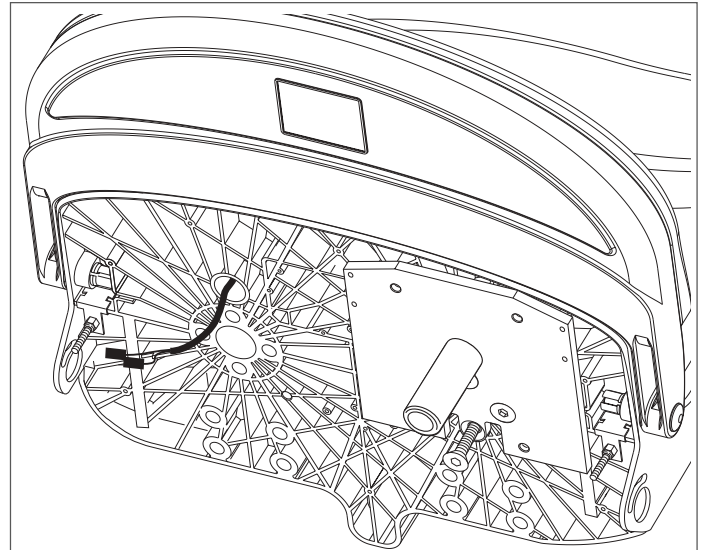
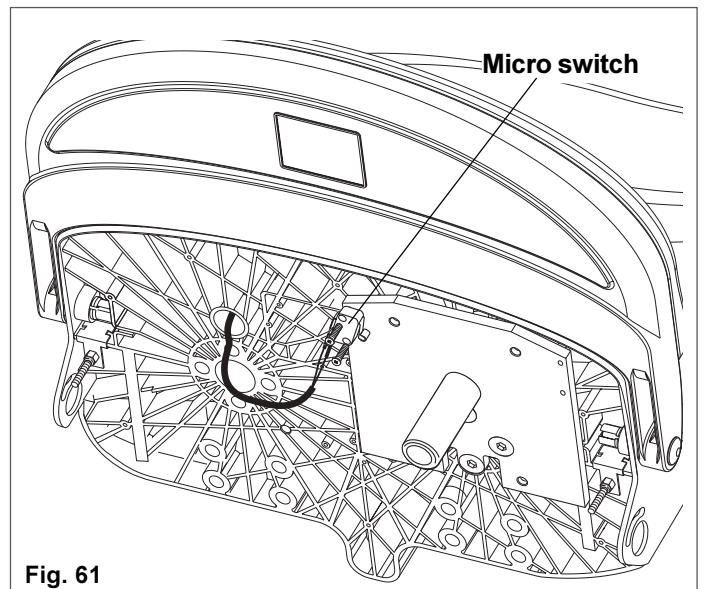

Fig. 60
Fig. 61
- 10 Replace the plate in the required position, and tighten the Allen screws to 20Nm. (Fig. 60).
- 11 Replace the micro switch in the position indicated in Figure 61, and feed the loom through the moulded hole as shown in (Fig. 60 and 61) and reconnect the spade terminals.
Fit the seat stem retaining nut, washer and collar (Fig. 61), and ensure the mechanism operates smoothly prior to fitting the cover.